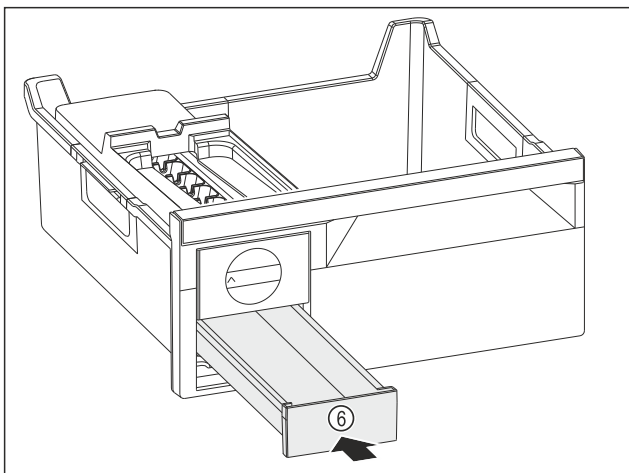

Fig. 79
- ▶ Insert the ice cube drawer Fig. 79 (6).